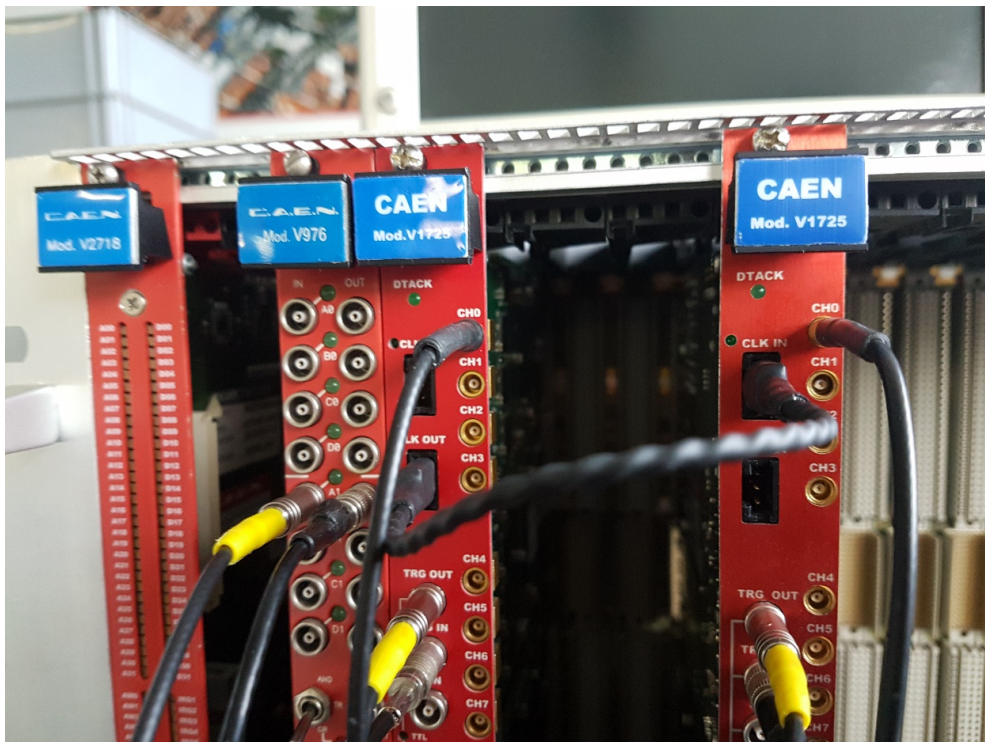

Fig. 4.1: Digitizer clock daisy-chain.
1. **CLOCK:** all the boards should work with the same clock, and all the clock of all the boards should ideally be in phase. In order to do that, one board (the clock master, CM) distributes its clock to all the others (clock slaves, CSs) through the CLK IN / CLK OUT connectors in the upper part of the front panel (see Fig. 4.1). The connections should be made through the A317 connectors provided by CAEN, as shown in the picture below: